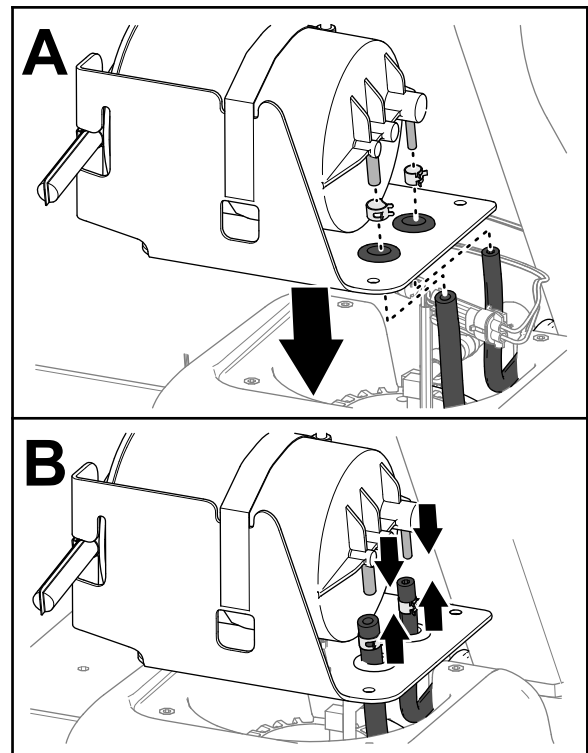

Figure 123
1. Align the fuel tank hoses through the grommets of the carbon-canister bracket (Figure 123).
2. Assemble the hose clamps over the hoses (Figure 123).
3. Assemble the hoses onto the fittings of the carbon canister (Figure 123).